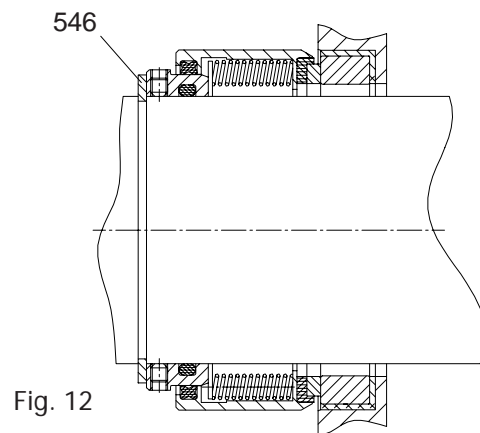

Fig. 12
d) Stainless-steel-shroud seal - type "X" (Fig. 12)